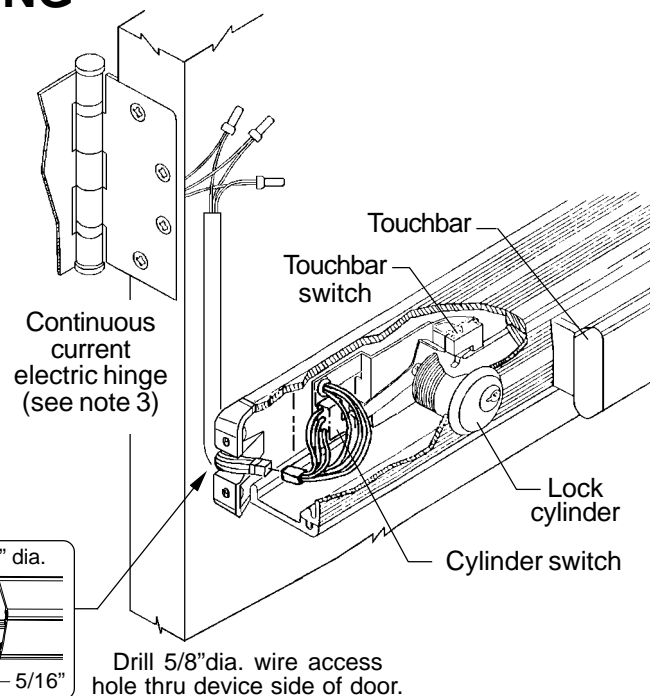

**Figure 2**
2. Insert key and rotate cam to install the cylinder to the cover plate (Figure 2).